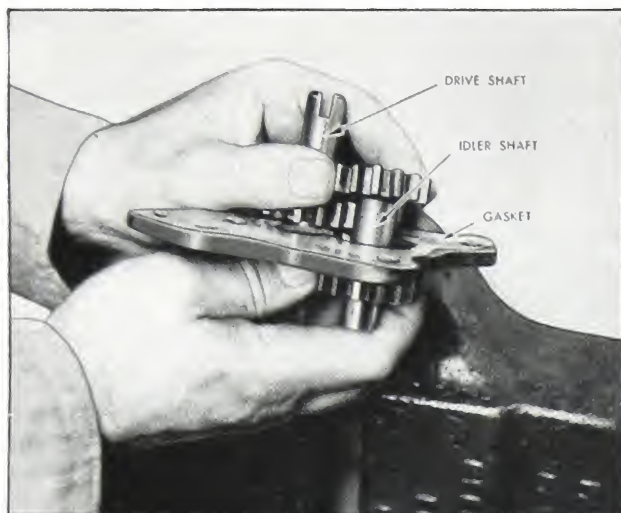

Fig. 5-26. Removing idler shaft and gears from spacer plate
7. Pull or lift the idler shaft and gears from the spacer plate, being careful not to lose the oil seal and washer between the spacer plate and the Number 2 pump gear. (Fig. 5-26).